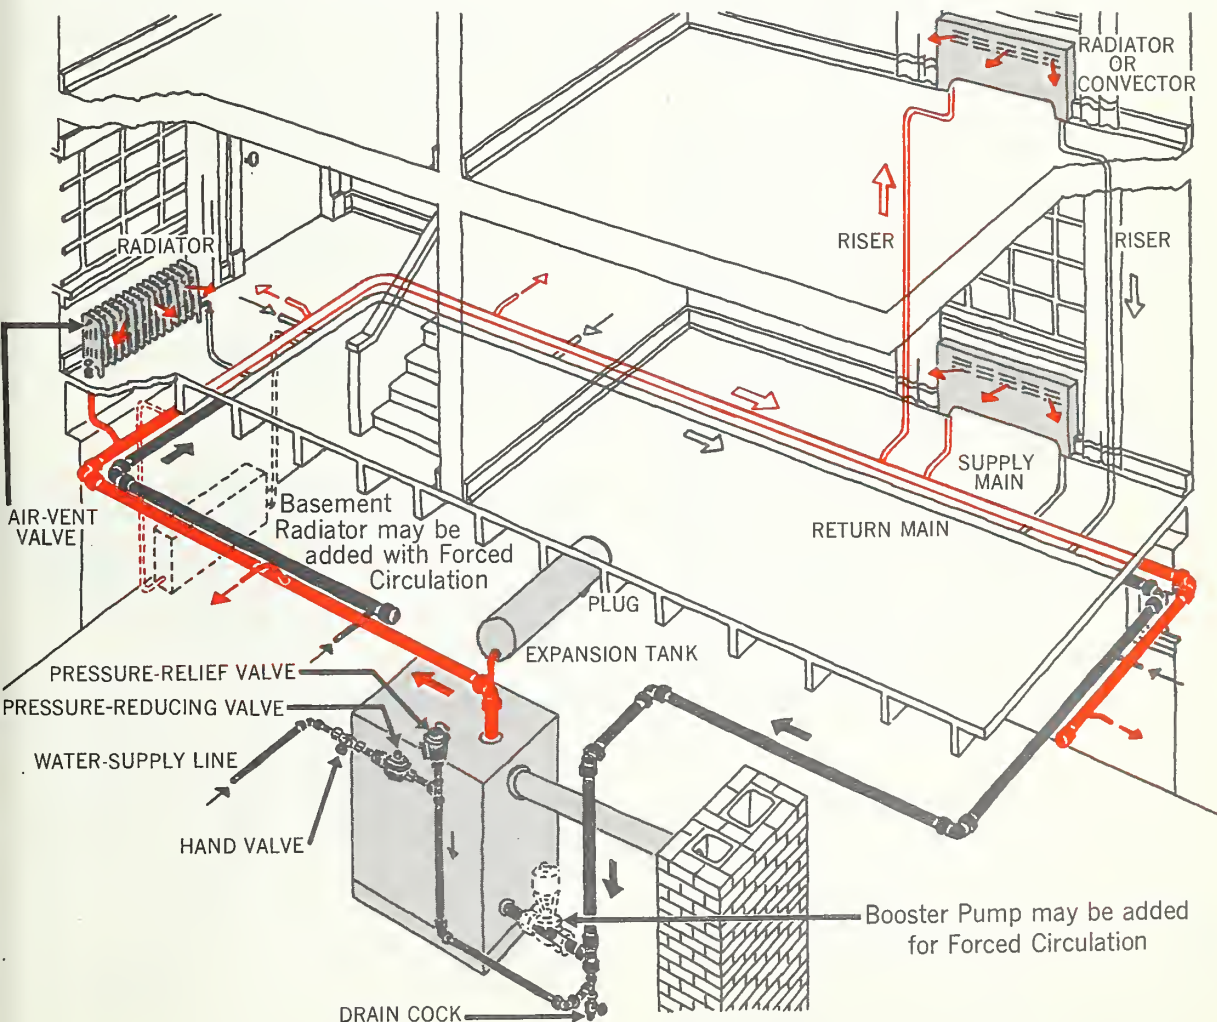

Figure 16.—Hot-water system.
The gravity hot-water system (fig. 16) usually has two main pipes, one to supply hot water from the boiler to the radiators, and one for the return of cool water. A riser from the hot-water main is connected to one end of each radiator and a riser from the return main to the other end. In the gravity system the boiler must be located below the lowest radiator.
of too great pressure increases (fig. 16). If the pressure-relief valve discharges water every time the boiler starts to heat, the expansion tank is probably waterlogged—completely filled with water, leaving no space for air.
**Forced Hot Water.**—In a one-pipe or two-pipe forced-circulation, hot-water system, a small circulating or booster pump (fig. 16) aids the movement of the water, so that response to temperature changes in the house is faster. In the one-pipe system the water main makes a complete circuit